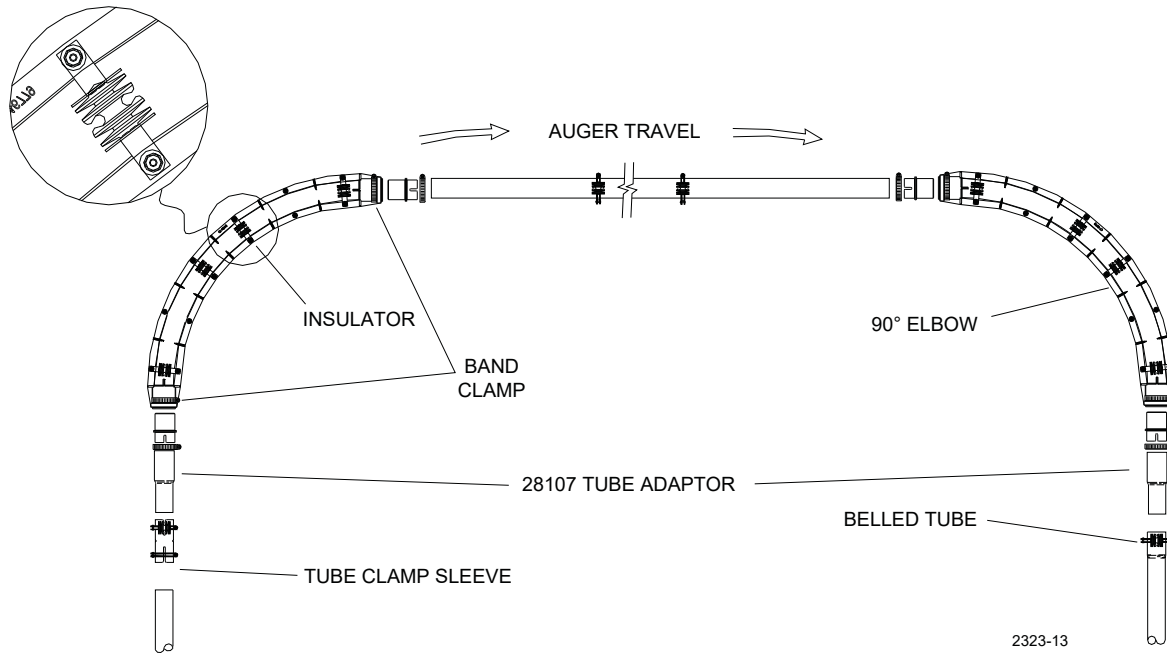

Figure 46. Elbow Assembly
10. Assemble the elbows and related components as shown in **Figure 46**. Temporarily support the elbows until the suspension system is installed.